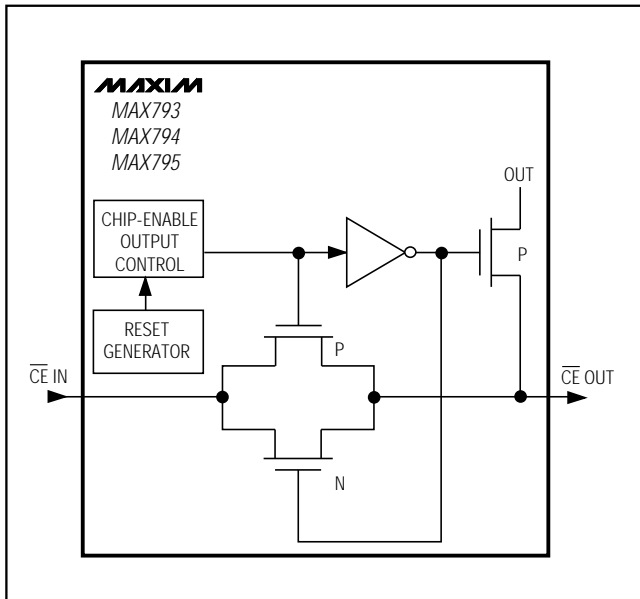

Figure 7. Chip-Enable Transmission Gate
Internal gating of chip-enable (CE) signals prevents erroneous data from corrupting CMOS RAM in the event of an undervoltage condition. The MAX793/MAX794/MAX795 use a series transmission gate from \overline{CE} IN to \overline{CE} OUT (Figure 7). During normal operation (reset not asserted), the CE transmission gate is enabled and passes all CE transitions. When reset is asserted, this path becomes disabled, preventing erroneous data from corrupting the CMOS RAM. The short CE propagation delay from \overline{CE} IN to \overline{CE} OUT enables these μ P supervisors to be used with most μ Ps. If \overline{CE} IN is low when reset asserts, \overline{CE} OUT remains low for typically 10 μ s to permit completion of the current write cycle.